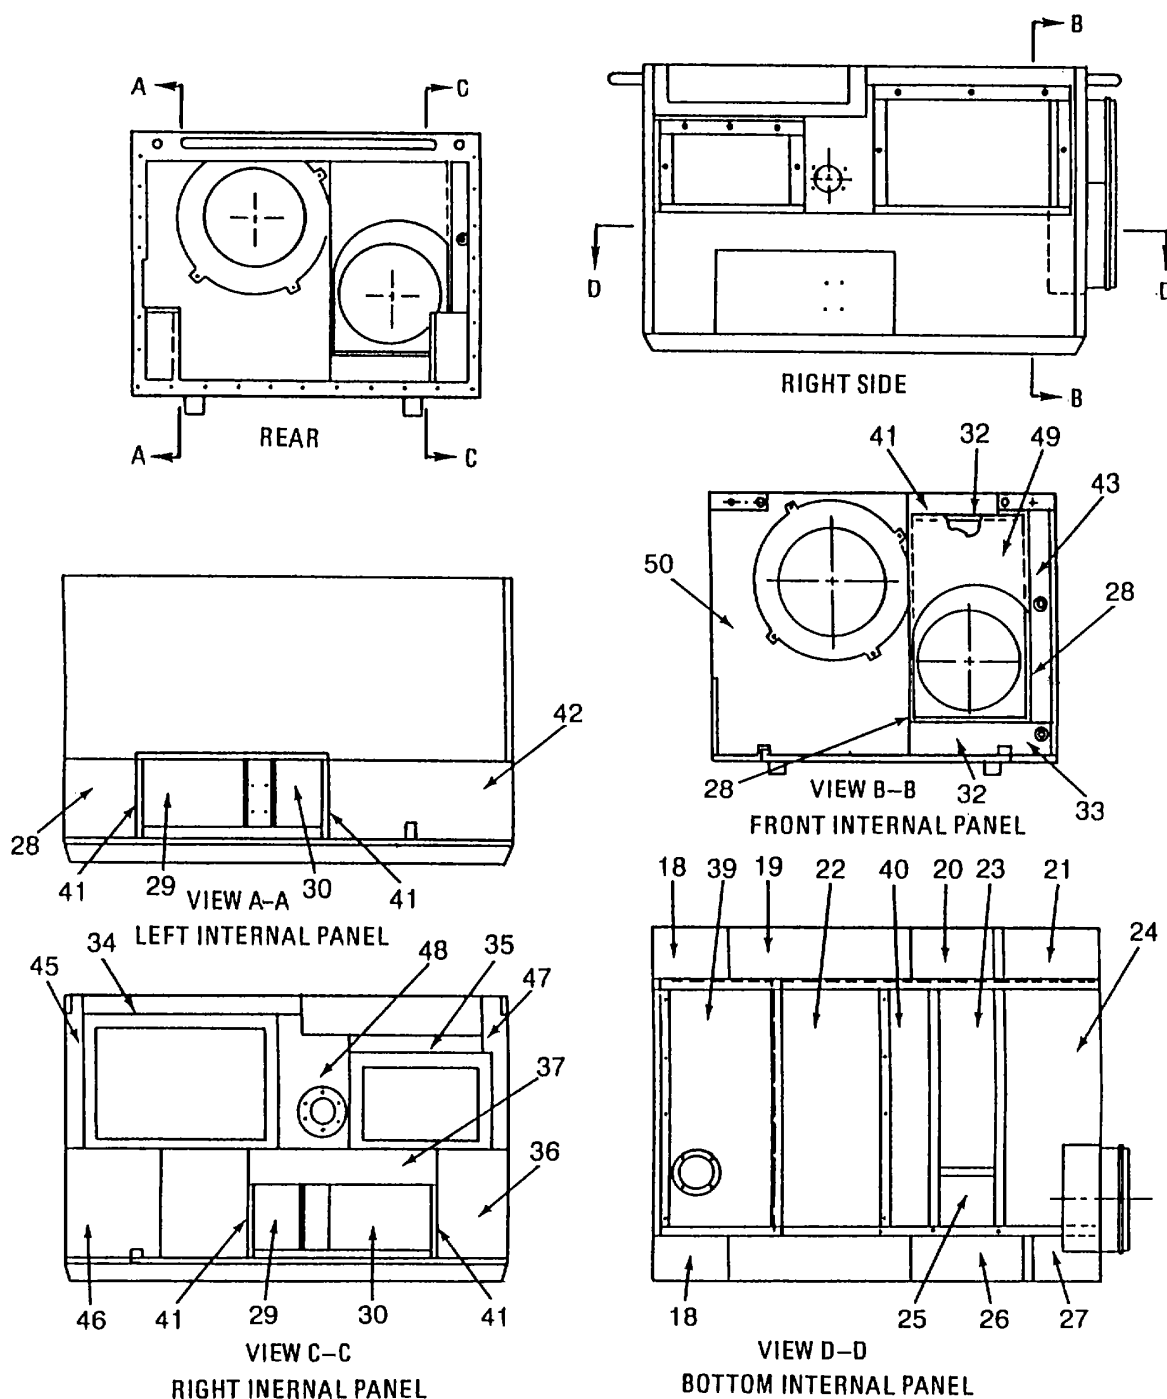

Figure 5-24. Frame Assembly
a. Disassembly - continued (Refer to figure 5-24) (Index numbers refer to App F)
(10) Remove insulation as required.